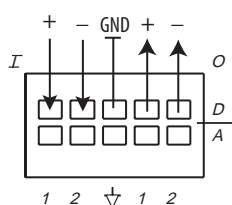

Figure 2-5
2. Connect the other end of this cable to the front panel RS-422 terminal block connector on the Mini-HDMI-AD (see Figure 2-5).